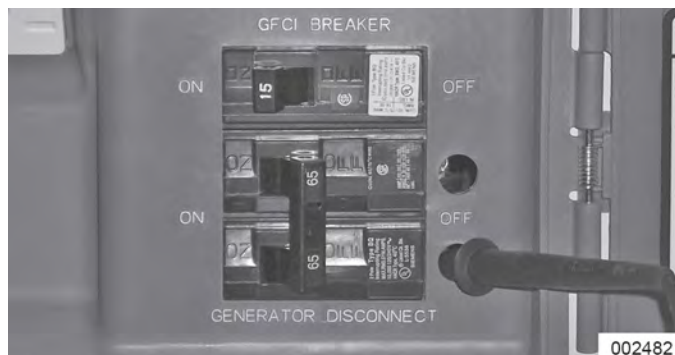

Figure 2-8. MLCB Test Points
2. See Figure 2-8. With the engine shut down, connect the meter test leads across the load terminals of the generator MLCB. This will measure line-to-line voltage.